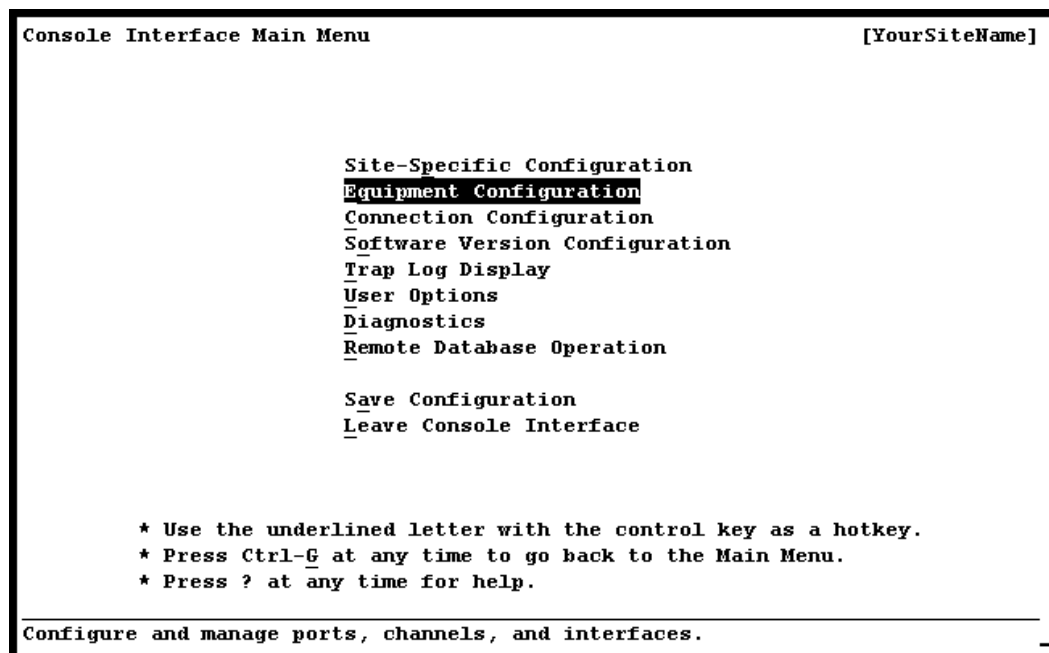

Figure 3-2. Console Interface Main Menu Window (Equipment Configuration Selected)
- 1 On the Console Interface Main Menu window (see Figure 3-2), select the Equipment Configuration option and press Enter.